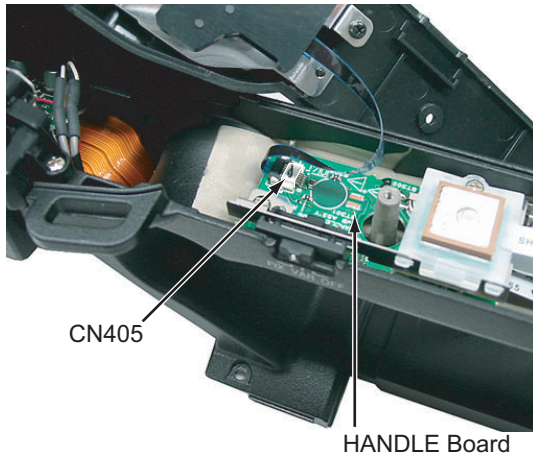

Fig.3
3.2.3 Removing the seesaw assembly (See Figure 3)